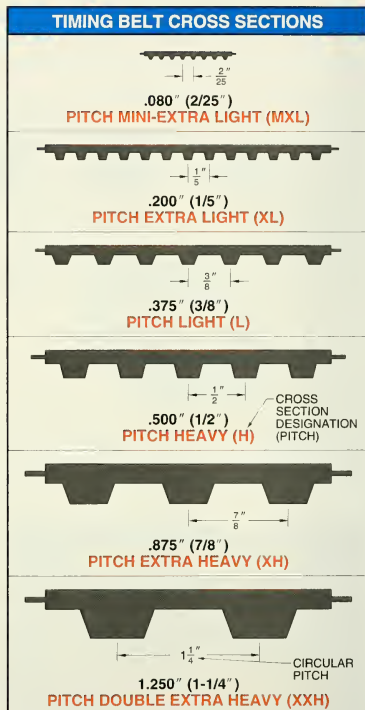

Figure 11-16. Trapezoidal timing belts are classified by their standard length, cross section designation, and circular pitch.
Belt *pitch length* is the total length of the timing belt measured at the belt pitch line. *Circular pitch* is the distance from the center of one tooth on a timing belt to the center of the next tooth measured along the belt pitch line. Belt circular pitch is directly related to the cross section of the belt. The six basic cross sections of timing belts are mini-extra light (MXL), extra light (XL), light (L), heavy (H), extra heavy (XH), and double extra heavy (XXH). See Figure 11-16.